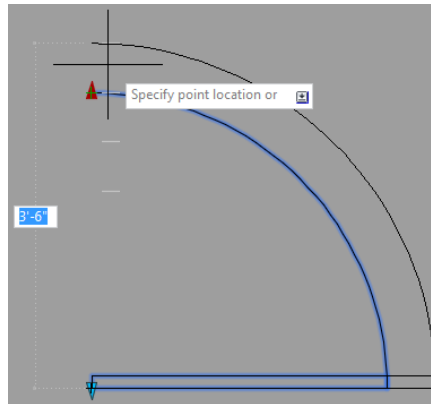

FIGURE 9.49: Using Test Block to verify the functionality of the Distance parameter
7. Select the block, and then use the light-blue arrow to test the Distance parameter you added to the A-DOOR-36IN (A-DOOR-0915) block, as shown in Figure 9.49.